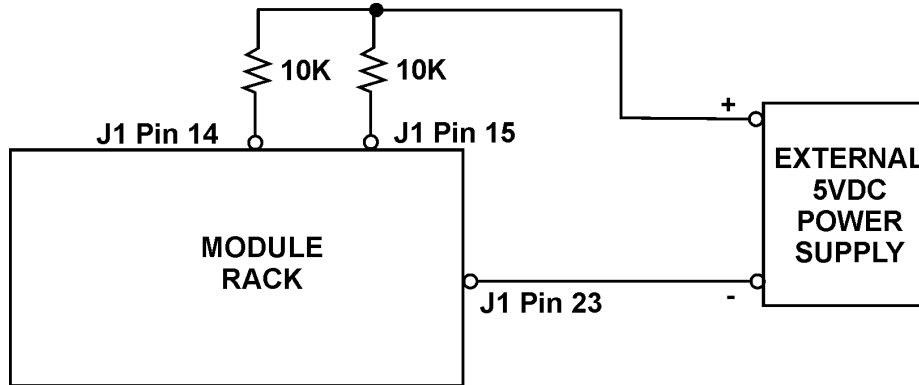

Figure 10. Checking AC Good and DC Good Outputs
- 20.8 Checking the AC Good and DC Good Outputs.** Connect the -lead of an external 5V power supply to -Sense (J1 Pin 23). Connect one end of a 10K resistor to the +lead of the 5V supply and the other end to the AC Good output (J1 Pin 14). Connect one end of another 10K resistor to the +lead of the 5V supply and the other end to the DC Good output (J1 Pin 15). See Figure 10. Reconnect the Inhibit wire. Measure the output voltage at both J1 Pins 14 and 15 with respect to Signal Common (Pin 22) with a digital voltmeter. Both voltages should be less than 0.5VDC, indicating a TTL LO.